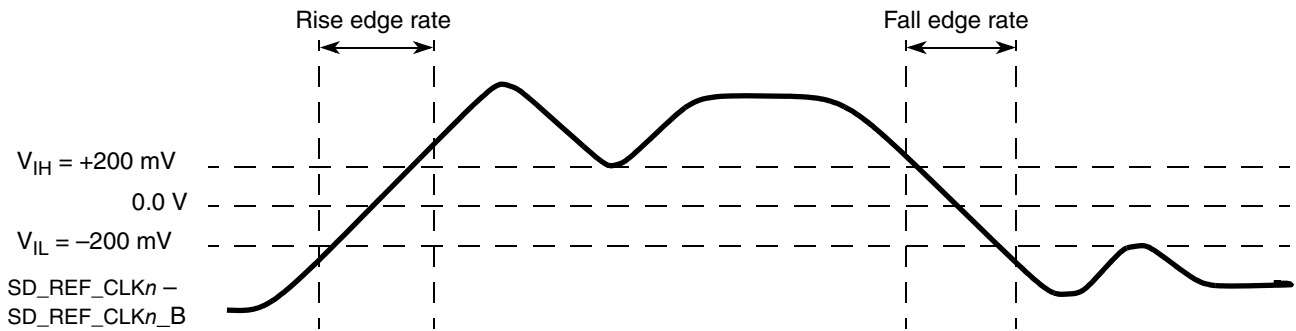

Figure 39. Differential Measurement Points for Rise and Fall Time
The differential waveform is constructed by subtracting the inverting signal (SD_TX_n_B, for example) from the non-inverting signal (SD_TX_n_A, for example) within a differential pair. There is only one signal trace curve in a differential waveform. The voltage represented in the differential waveform is not referenced to ground. See Figure 39 as an example for differential waveform.
- Measured from -200 mV to +200 mV on the differential waveform (derived from SD_REF_CLKn minus SD_REF_CLKn_B). The signal must be monotonic through the measurement region for rise and fall time. The 400 mV measurement window is centered on the differential zero crossing. See Figure 39.